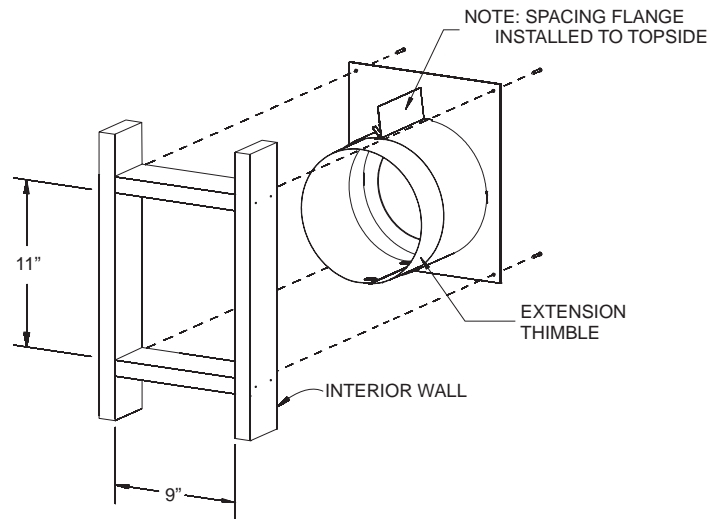

Figure 54
2. Cut hole in wall for wall thimble/firestop assembly **Figure 54** into your combustible wall. **NOTE:** On brick or block exterior wall a 7" (178mm) diameter hole needs to be cut.
Measure the total wall thickness to determine whether or not the extension thimble is to be used. If the combustible wall depth is over 5 3/8" (137mm), then the extension thimble should be used **Figure 54.**
3. Install the wall thimble assembly through the framed opening so the firestop plate is on the interior wall **Figure 54**. Telescope section should extend all the way through the exterior wall. Attach with (4) 10 x 1" screws.